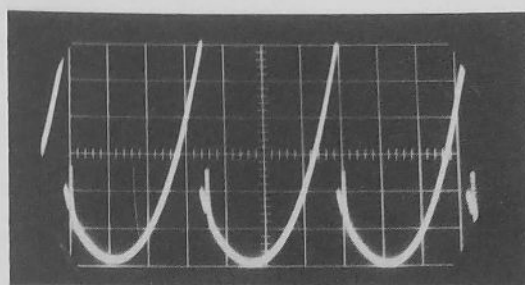

Figure 38. Output, 3V4, Pin 8, Approximately 7V P-P.
4. Place the SIZE switch to NORM and connect the scope probe to 3V4, pin 8. Figure 38 shows the correct waveform.